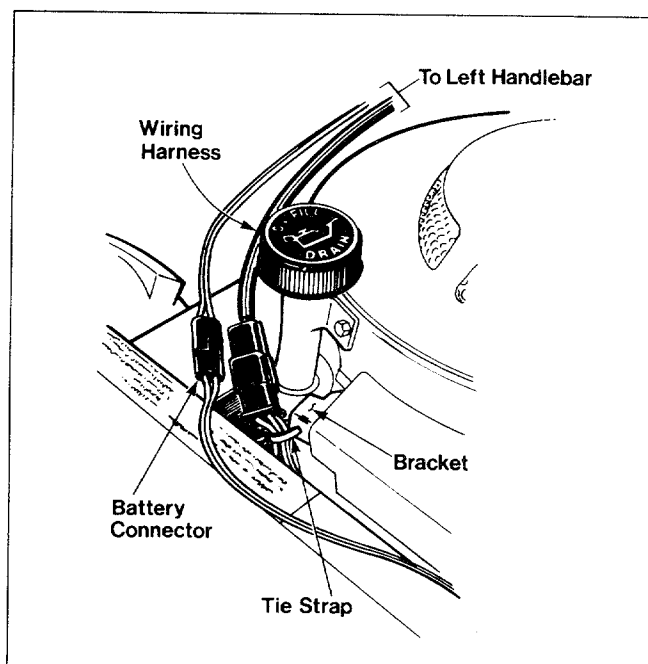

Figure 2-14: Secure the lower end of the wiring harness to the engine bracket (electric start models).
4. Insert the narrow plastic tie strap into the hole in the bracket that is located on the front part of the engine housing (to the left of the oil fill tube). See Figure 2-14.
5. Move the lower part of the wiring harness to the right and secure it to the engine's bracket with the tie strap as shown in Figure 2-14. Make sure that the large connector on the wiring harness is ABOVE the tie strap. Be certain that the battery connector wires are NOT secured to the engine's bracket with the tie strap.